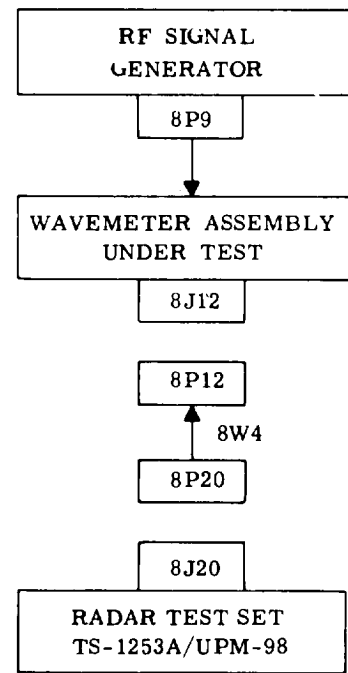

Figure 5-15. Wavemeter Assembly 8A3, Test Setup
- Step 6. Connect wavemeter assembly to Radar Test Set AN/UPM-98A and external test equipment as shown in figure 5-15.